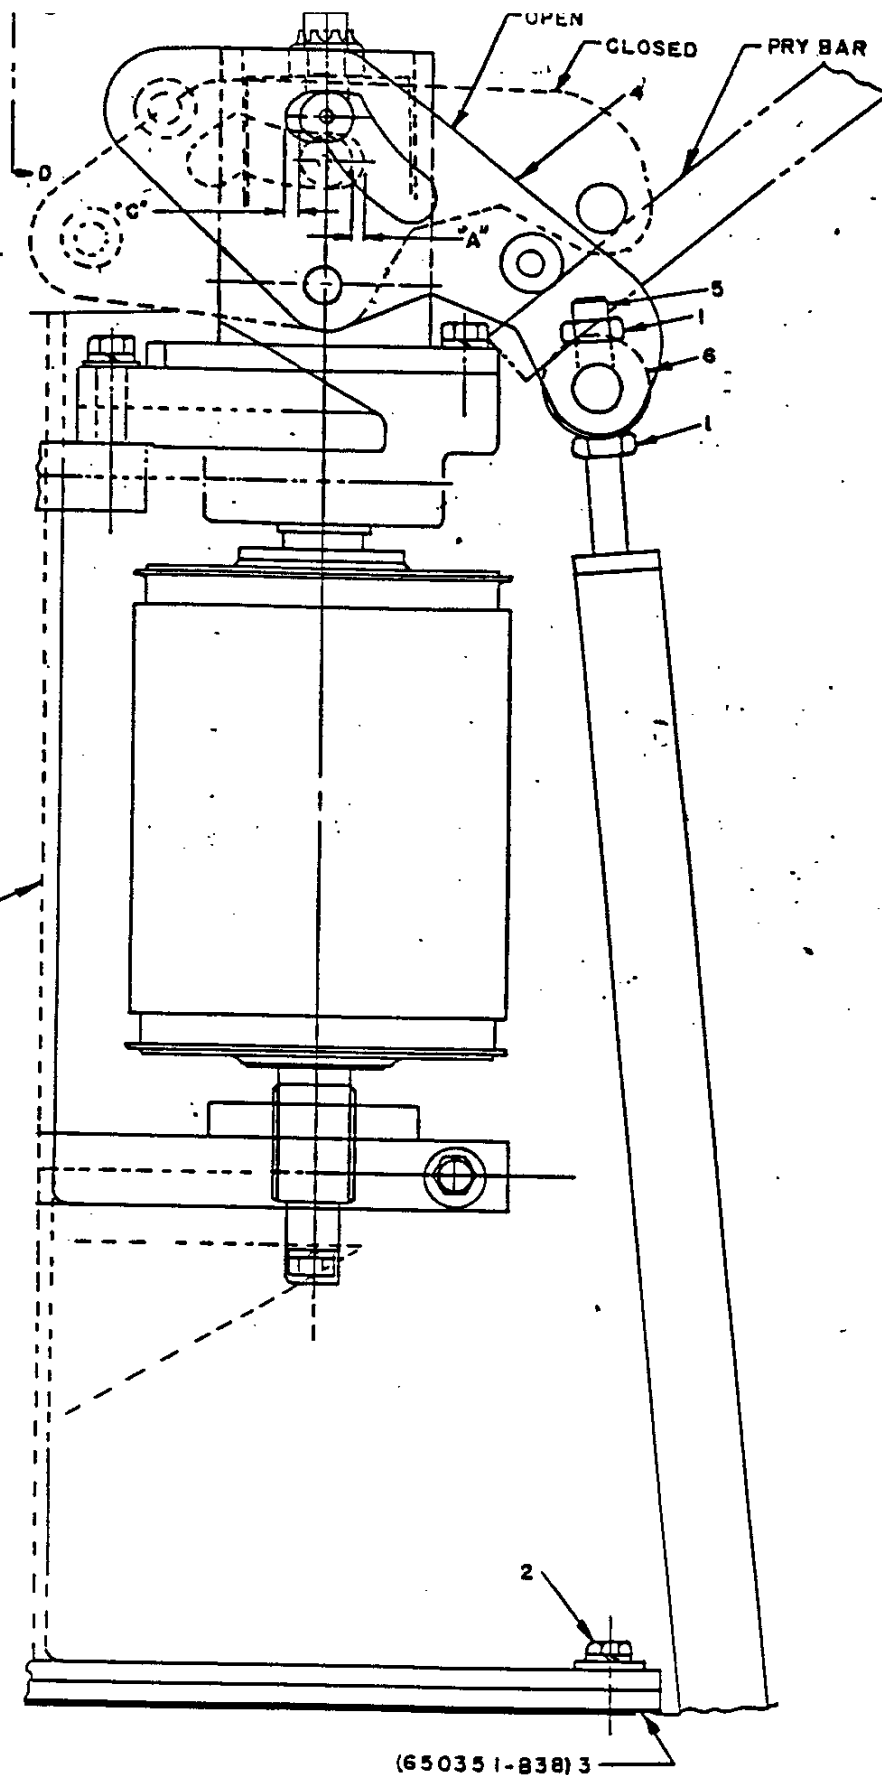

FIG. 1
2. REMOVAL OF OLD POLE ASSEMBLY (SEE FIG. 1)
3. INSTALLATION OF NEW POLE ASSEMBLY (SEE FIG. 1)
Moving the arms to the full open position is done by placing a pry bar as shown in Figure 1 and pushing down.